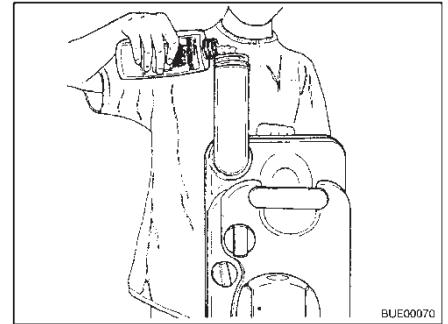

Fig. 177 Filling with sanitary liquid
- Fill the stated amount of sanitary liquid into the sewage tank (Fig. 177).